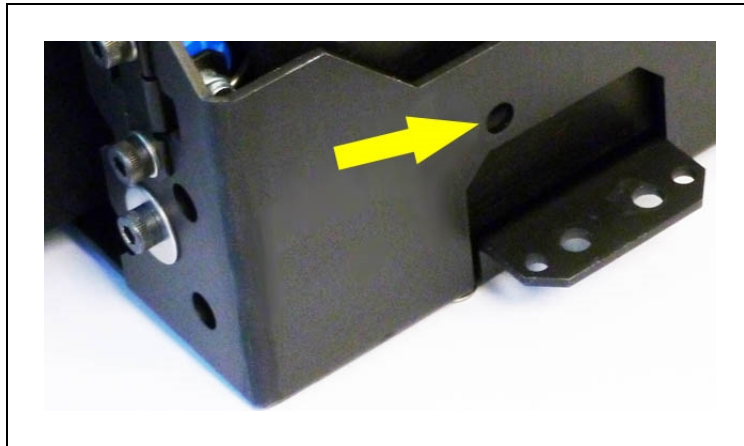

Figure 10-19. Spring-Compression Hole
6. Lift the drive wheel up, compressing its springs, enough so that you can insert a $\text{Ø}6 \times 10 \text{ mm}$ ($\text{Ø}0.24 \times 0.4 \text{ in.}$) pin into the hole on the rear side of the assembly (there is a hole on each side). This will keep the springs compressed (the wheel will be in the up position), and make removal easier. An M5 \times 10 screw works well for this. If you saved the wheel pin, it should be used for this. See Figure 3-13. See also Figure 10-19.